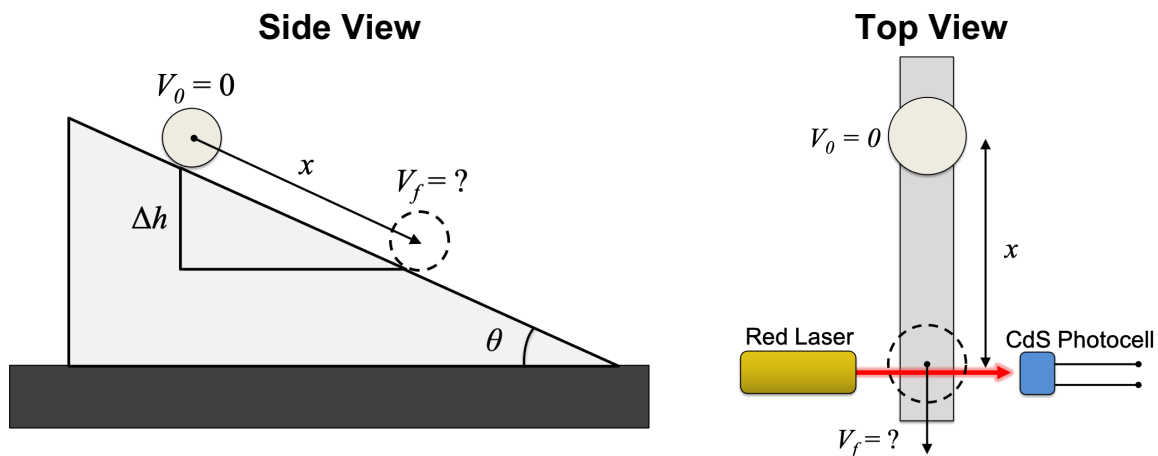

Figure 1 – The speed of a ball rolling down an inclined plane (left) is measured using a photogate (right).
Sketch the “side view” schematic shown on the left of Fig. 1 in your lab notebook. Then, derive a formula for the theoretical speed v_f of the rolling ball as function of the change in vertical height Δh . Assume the ball is initially at rest. Write this formula down in your lab notebook. You will need it to calculate the *theoretical* speed, which you will compare to your measured speed.
3. The vertical height Δh that you will use for your experiment is written on the whiteboard. Write down the value in your lab notebook, then use geometry to estimate what distance x along the track this corresponds to. (Note the similar triangles in Fig. 1.)